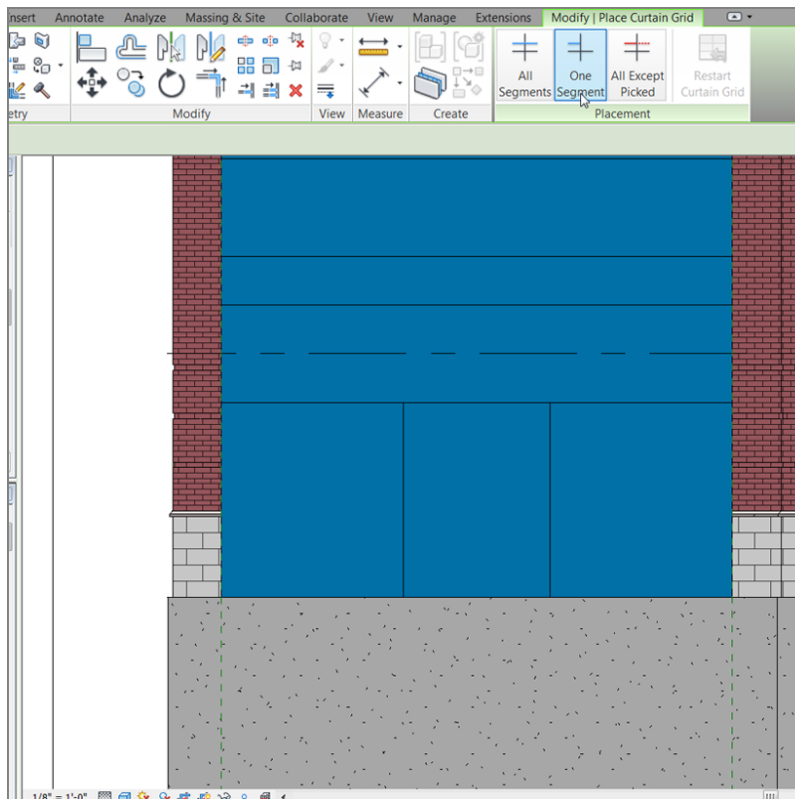

FIGURE 16.33: Chopping up the panel
18. Copy the grid to the right 6'-0" (1600mm). Your wall should now look like Figure 16.33.